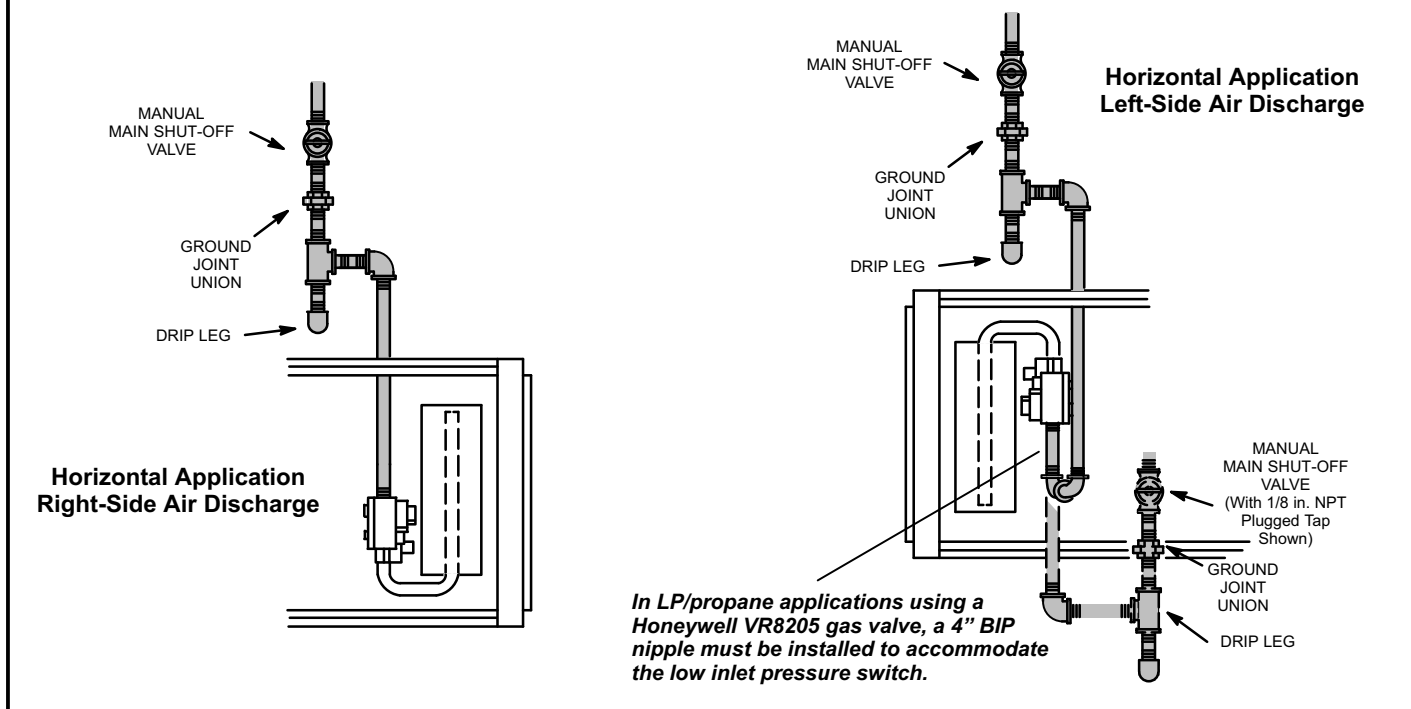

FIGURE 50
- 1 - Gas piping may be routed into the unit through either the left- or right-hand side. Supply piping enters into the gas valve from the side of the valve as shown in figure 50 or 50.
- 3 - Gas piping must not run in or through air ducts, clothes chutes, chimneys or gas vents, dumb waiters or elevator shafts. Center gas line through piping hole. Gas line should not touch side of unit. See figure 50 or 50.